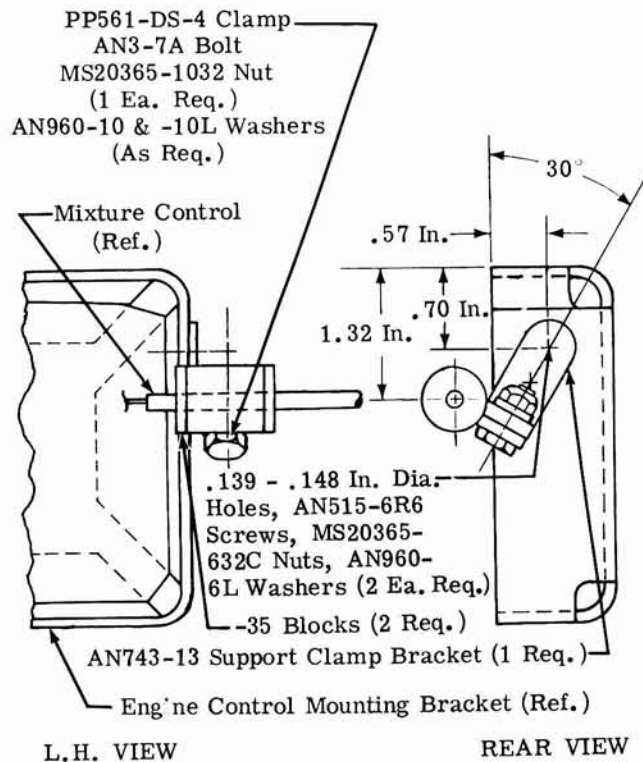

Figure 1
2. Position an AN743-13 support clamp bracket on the aft left hand side of the engine control mounting bracket as shown in Figure 1. Drill a .139 - .148 inch diameter hole in the engine control mounting bracket through the upper attaching hole in the AN743-13 bracket.
7. Secure the -35 blocks and the PP561-DS-4 clamp to the AN743-13 bracket with the AN3-7A bolt and an MS20365-1032 nut. Use AN960-10 and AN960-10L washers as required to obtain the 1.32 inch dimension shown in Figure 1.